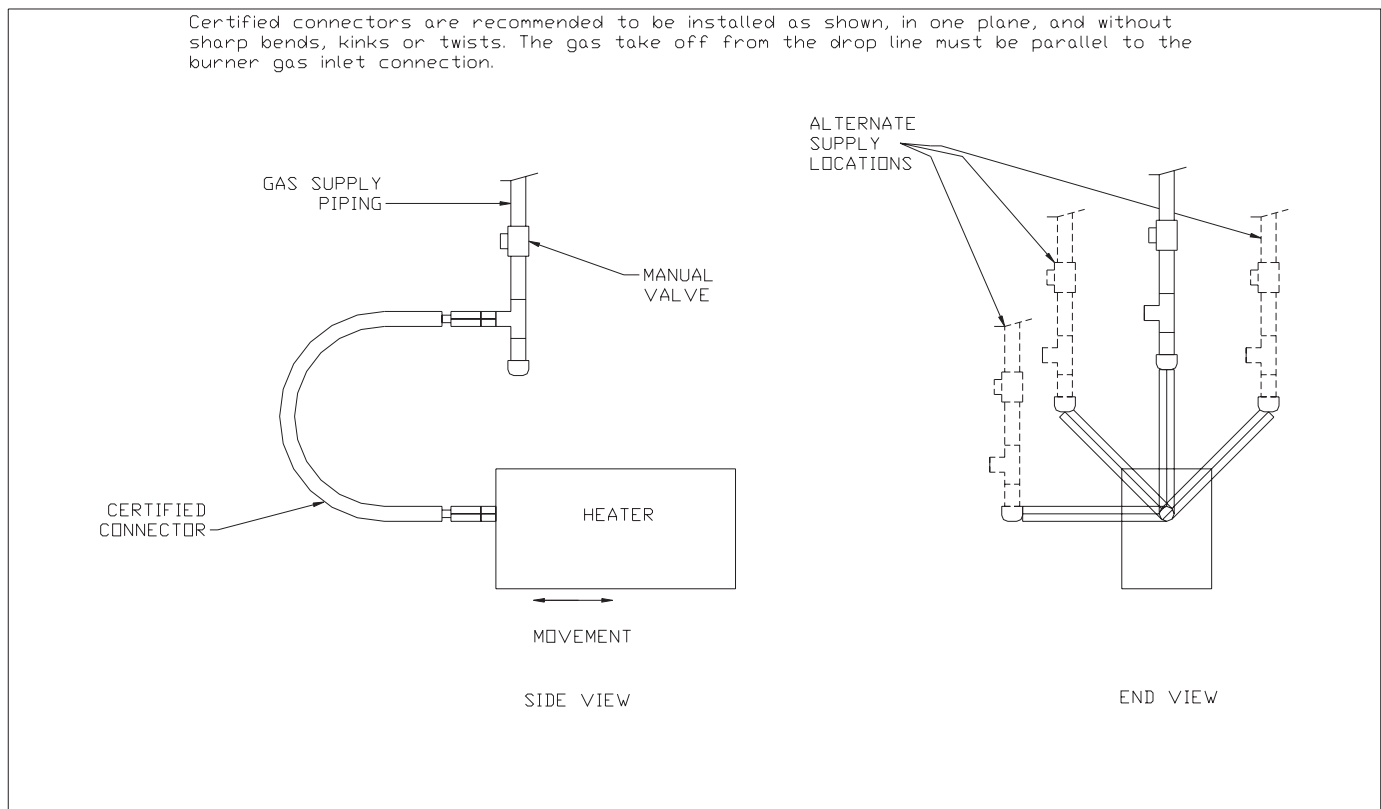

Figure 2.11.1
A typical gas supply line connection is illustrated in Figure 2.11.1. The method shown will decrease the possibility of any loose scale or dirt in the supply line entering the heater's control system and causing a malfunction. The gas supply line must be of sufficient size to provide the required capacity and inlet pressure to the heater (consult gas company) as follows:
- The connector shall not be kinked, twisted or torqued. See Figure 2.11.1.